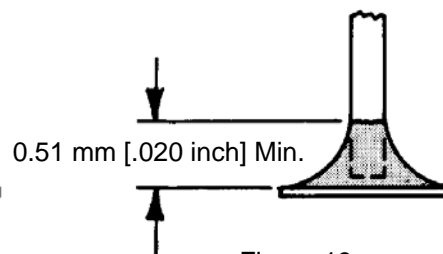

Figure 19
- B. For the butt lead, the minimum fillet height shall be 0.51 mm [.020 inch] high and the lead should penetrate well into the solder, Figure 19.